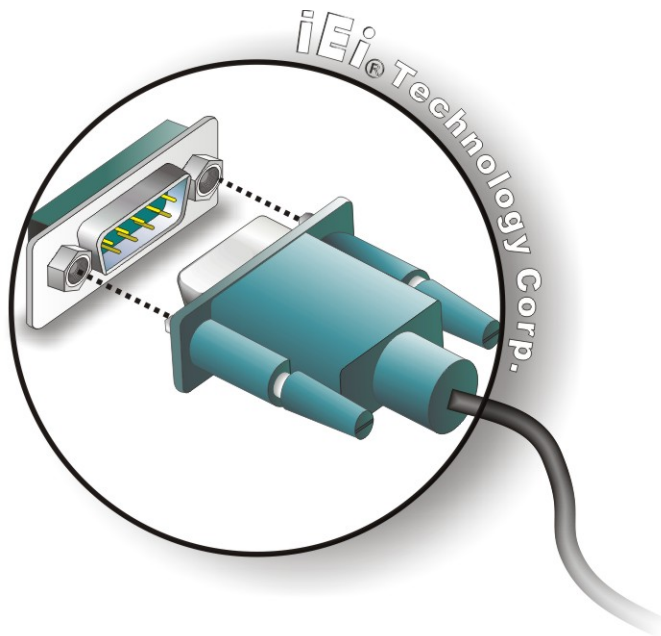

Figure 5-16: Serial Device Connector
Step 2: **Insert the serial connector.** Insert the DB-9 connector of a serial device into the DB-9 connector on the external peripheral interface. See **Figure 5-16**.